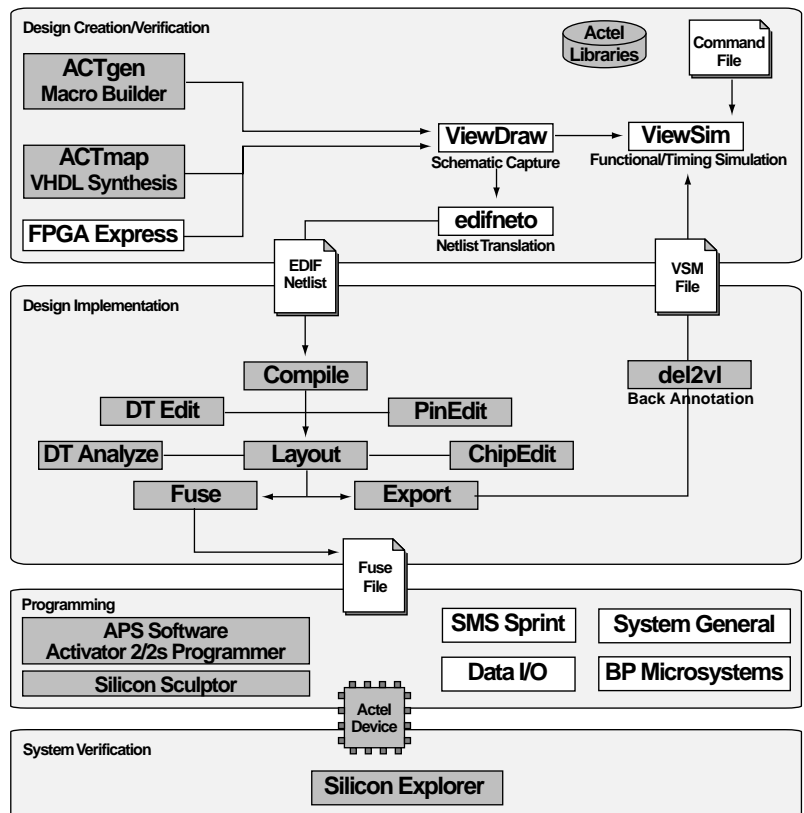

Figure 2-1. Actel-Viewlogic Schematic-Based Design Flow
Figure 2-1 shows the schematic-based design flow for creating an Actel device using the Workview Office and Designer Series software¹.
1. Actel-specific utilities/tools are denoted by the grey boxes in Figure 2-1.